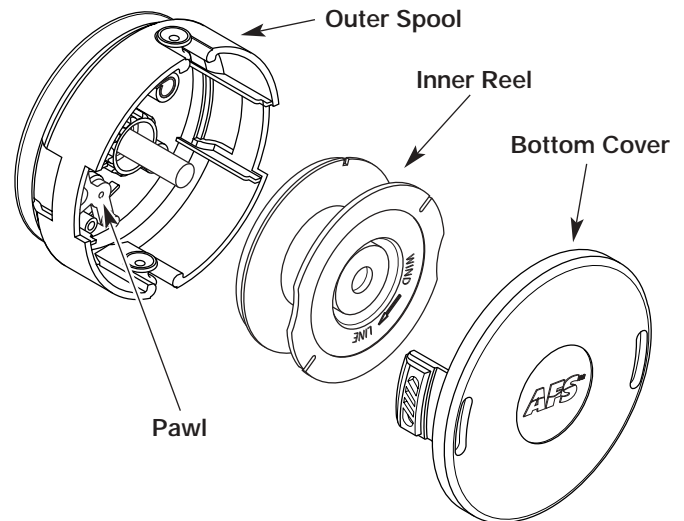

Fig. 12
2. Remove the inner reel from the outer spool (Fig. 12).
2. Remove the old inner reel from the outer spool (Fig. 12).